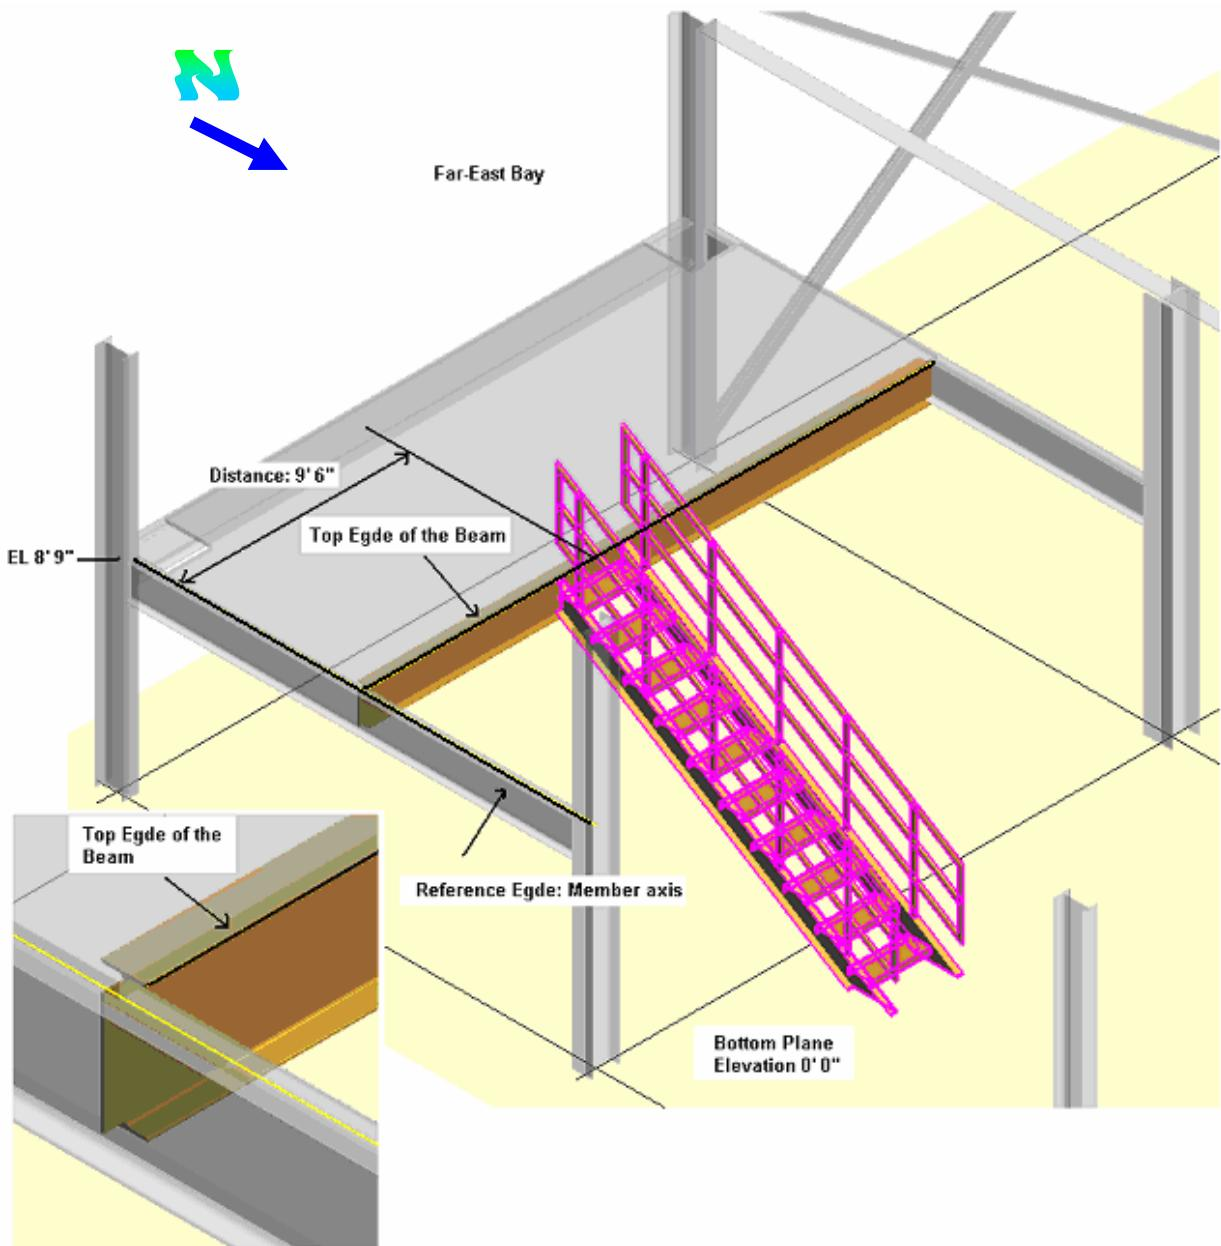

Figure 18 – ISO View of the first stair.
- 5 Select the reference edge for the stair. See Figure 18